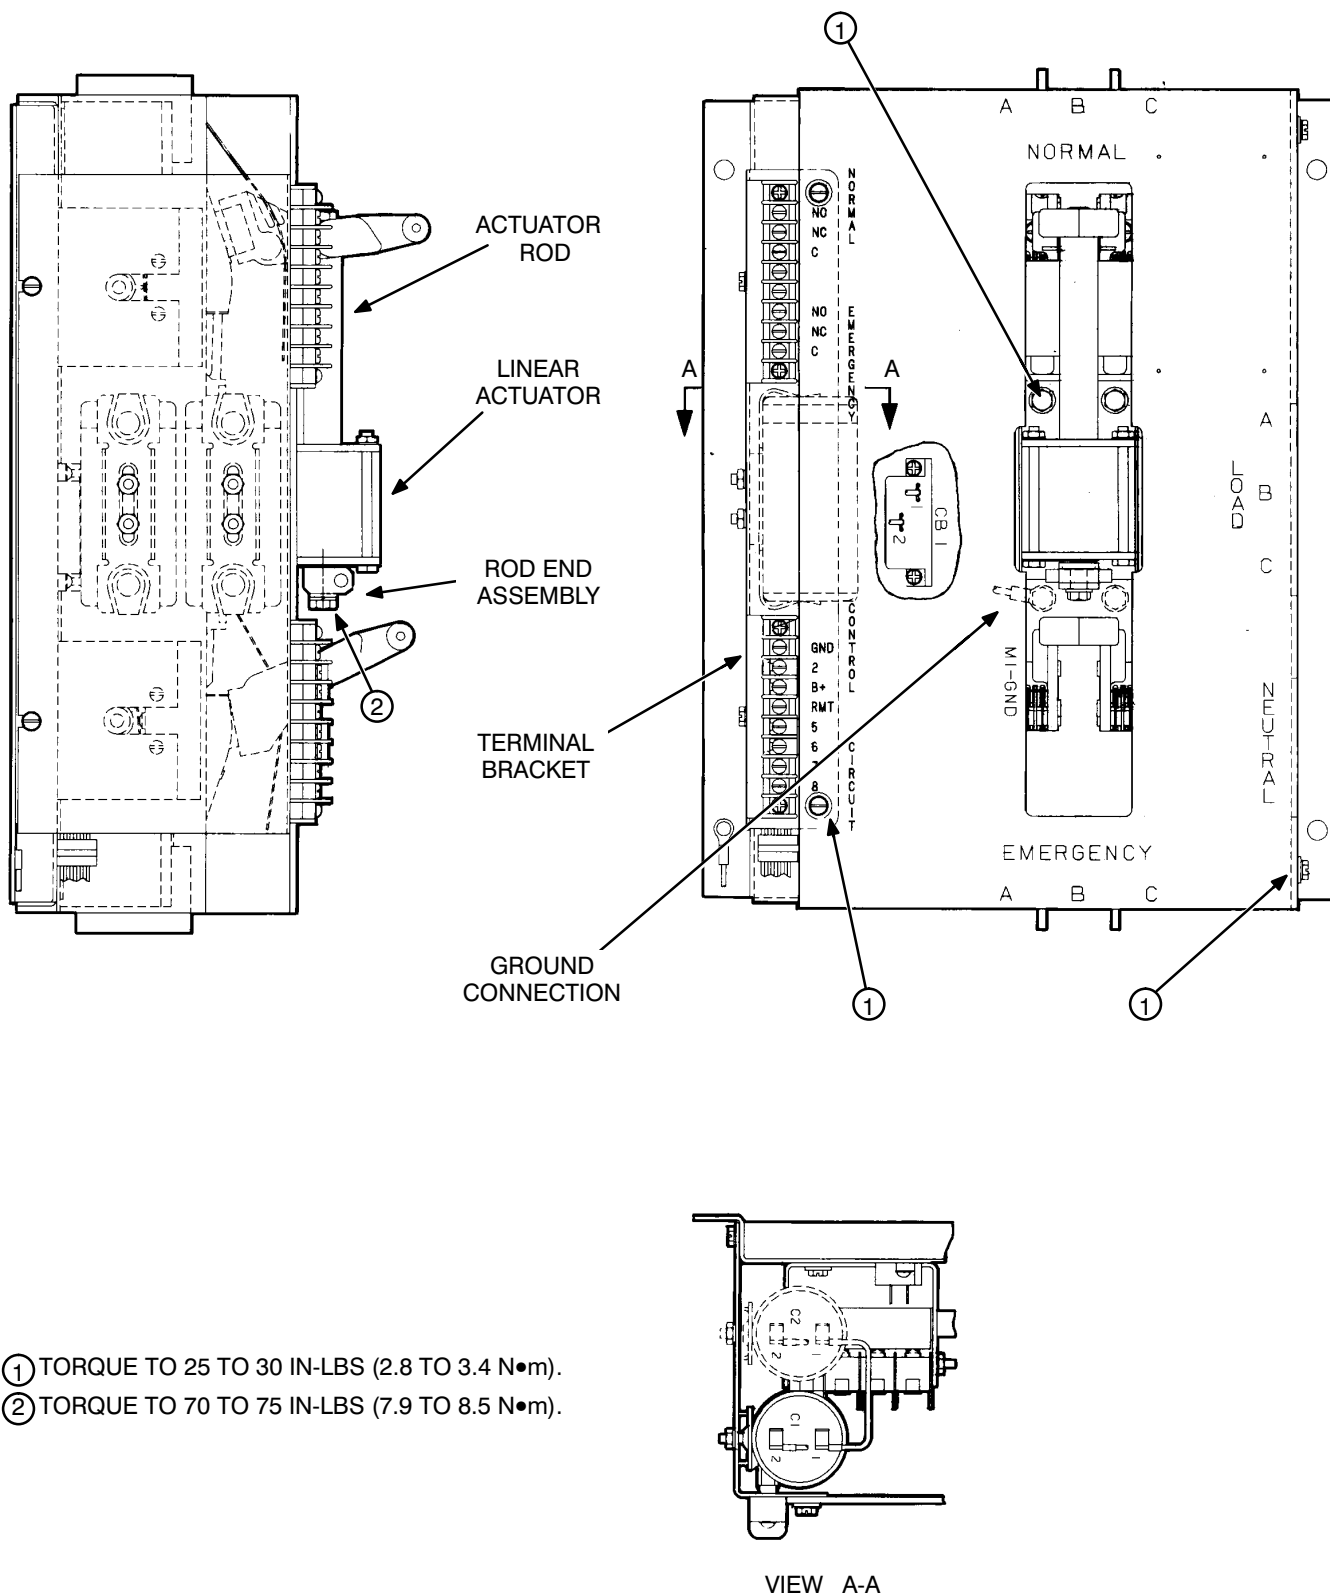

FIGURE 4-1. TRANSFER SWITCH COVER (40 TO 125 AMPERES)
5. Remove the socket head capscrews and lock washers that secure the actuator to the block assemblies (Figure 4-1). Note the ground wire connection to the lower left capscrew.
3. Secure the actuator motor to the block assemblies using socket head capscrews (4) and lock washers (4). Be sure to reconnect the ground wire to the lower left screw (Figure 4-1). Tighten capscrews to 25 to 30 in-lbs (2.8 to 3.4 N•m) torque.